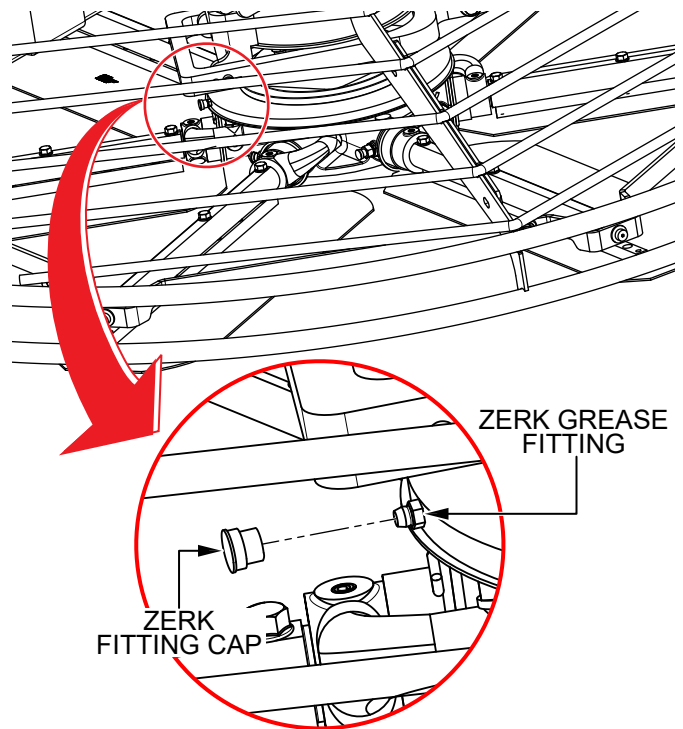

Figure 67. Thrust Collar Lubrication
1. Locate the Zerk grease fitting on either thrust collar (Figure 67). Remove the Zerk grease fitting cap and set it aside.